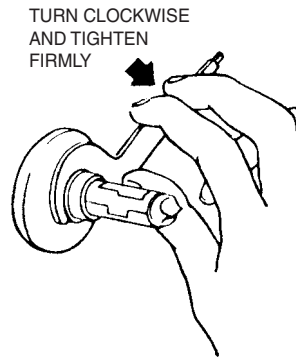

Figure 19.49 Electrified key-in-knob lock installation, Step 6.
6. Secure the trim by replacing the rose and screwing it on to the threaded spindle with your fingers as far as it will go. Tighten the rose with the spanner wrench (Fig. 19.49).